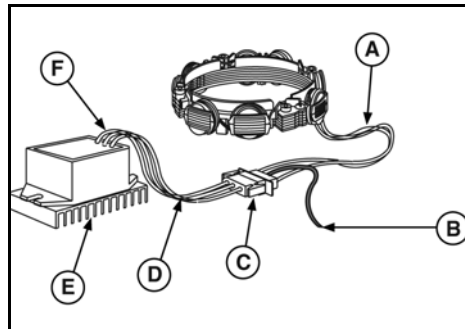

Figure 15
**8. 20 Amp DC (Figure 15)**
- Two yellow leads from stator (A)
- Red output lead from connector (B)
- Connector (C)
- Two yellow AC input leads (D)
- Regulator Rectifier (E)
- Red output lead from regulator-rectifier (F)